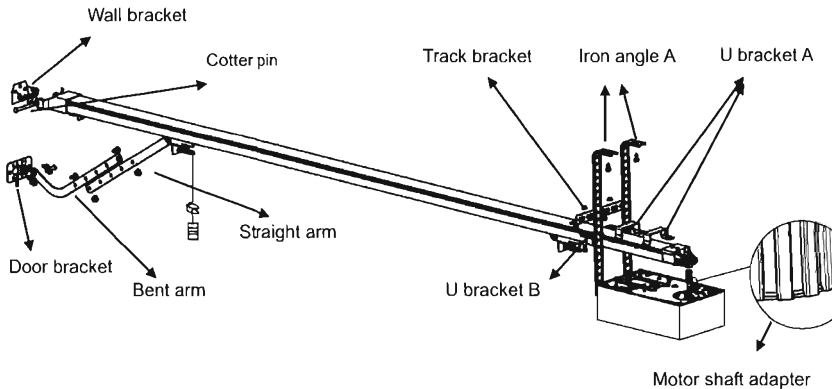

Fig.5
3. Sleeve the motor shaft adapter to the motor shaft according to Fig. 5.